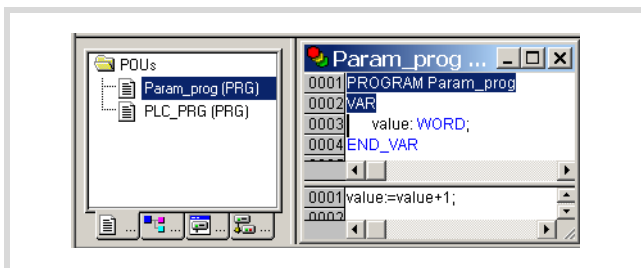

Figure 39: POU for event-triggered task
- ▶ Enter the program as shown in Figure 39. The program "Param_prog" is processed if the variable a = TRUE. The variable "value" is then incremented by 1.